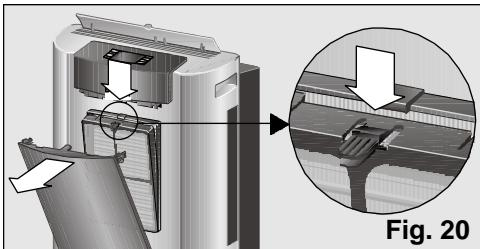

Fig. 20
All models are fitted with a basic filter which needs to be cleaned regularly, Fig. 19. The filter is accessed by pressing the tab at the top and removing it from its housing, Fig. 20. The filter is cleaned under a cold tap, dried and replaced.
- ❑ Remove the basic filter from the appliance, Fig. 20.